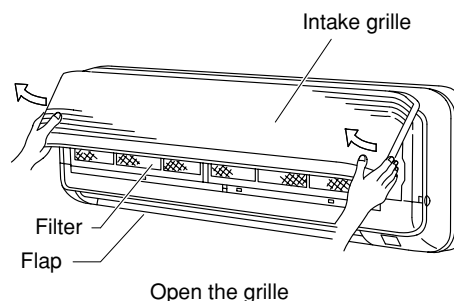

Fig. 3-69
- (1) Lift up on both sides of the air-intake grille to open it. (Fig. 3-69)
- (2) Remove the filter. (Fig. 3-69)